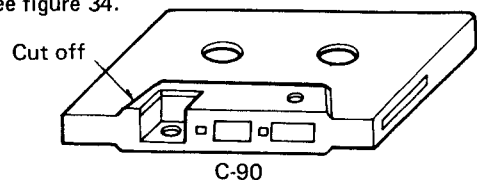

Figure 34
P.S. When the mirror cassette is not available, please remodel a normal tape, type C-90 as shown below. See figure 34.